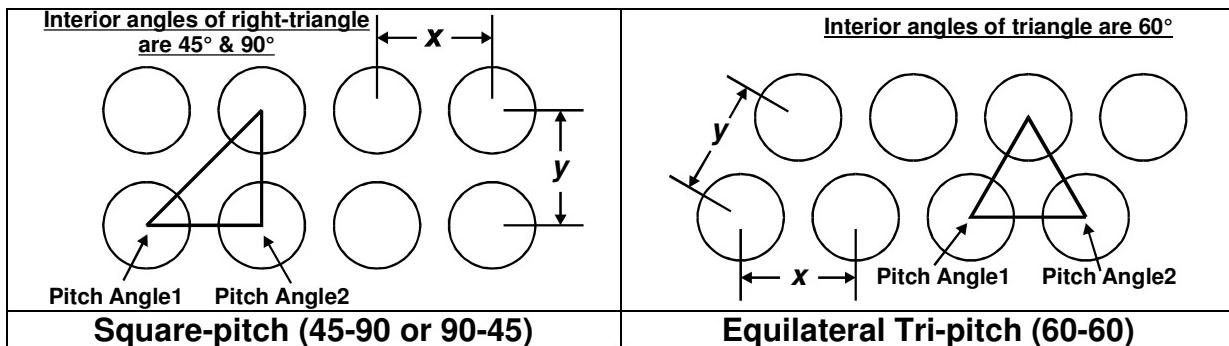
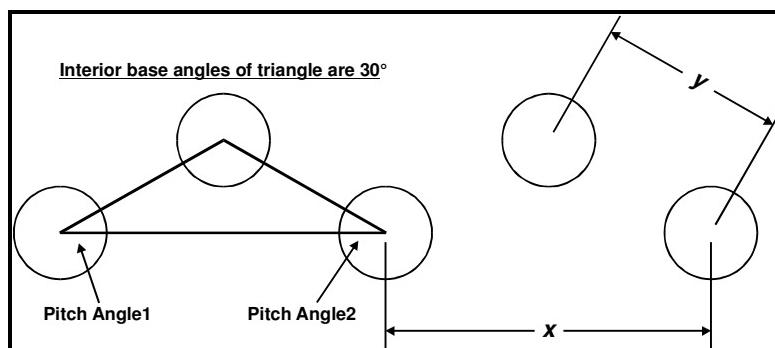

Figure 39. Symmetrical Tube Pitch Designs
Figure 40. Asymmetrical Tri-Pitch Design (30-30)
- **Tube Pitch:** Enter the horizontal center-to-center tube pitch. For square-pitch and equilateral tri-pitch, the tube pitch is the same horizontally or vertically as shown in Figure 39.
The tube pitch provided on most specification drawings is not the horizontal tube pitch (x), but rather the tube pitch (y) along either side of a triangle created by selecting a tube in any row and drawing vectors down to the 2 adjacent tubes directly below it. In the first graphic of Figure 39, this action creates a right-triangle with either leg being equal ($x = y$). In the second graphic, an equilateral triangle is created with all sides being equal ($x = y$). All the interior angles of the equilateral triangle are 60° while the interior angles of the right-triangle are 45° , 45° , and 90° . In both of these cases, the horizontal tube pitch (x) is the same as the vertical tube pitch (y) as shown.
However, a common tri-pitch design used in some heat exchangers is referred to as '30-30' tri-pitch. In this case, the resulting triangle is not equilateral and the interior angles are 30° , 30° , and 120° as shown in Figure 40. The y dimension shown along one of the legs of the triangle is typically the tube pitch value given on manufacturer's specification drawings. **MakeComp** needs the horizontal tube pitch (x) to accurately calculate the position of the tubes on the *building grid*.
To calculate the horizontal tube pitch for the 30-30 tri-pitch layout shown in Figure 40 when only the *y* dimension is provided, use the following formula:
- **Pitch Angle1:** Enter the left interior base angle of the triangle created as shown in Figure 39 or Figure 40. For square-pitch and equilateral tri-pitch, **Pitch Angle1** is 45° or 90° for square-pitch dependant on how the triangle is drawn, and 60° for equilateral tri-pitch. For asymmetrical tri-pitch (Figure 40), enter the actual base angles. In the example shown in Figure 40, a value of 30° would be entered in this field. By entering accurate values in this field, the **Pitch Angle2** field, and the **Tube Pitch** field, any conceivable tubesheet map can be created since these three (3) values are used to accurately calculate the position of each tube and their relationship to other tubes.
- **Pitch Angle2:** Enter the right interior base angle of the triangle created as shown in Figure 39 or Figure 40. For square-pitch and equilateral tri-pitch, **Pitch Angle2** is 45° or 90° for square-pitch dependant on how the triangle is drawn, and 60° for equilateral tri-pitch. For asymmetrical tri-pitch (Figure 40), enter the actual base angles. In the example shown in Figure 40, a value of 30° would be entered in this field. See **Pitch Angle1** above for addition details.